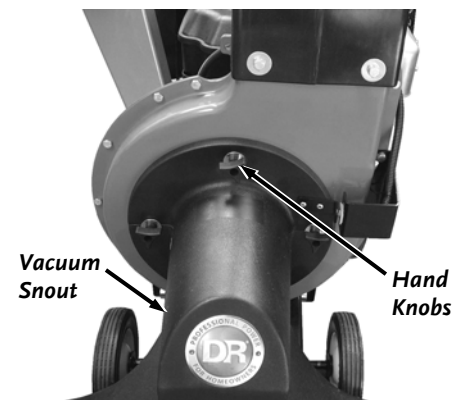

Figure 3
3. Unscrew the Hand Knobs and remove the Vacuum Snout from the machine (Figure 3).